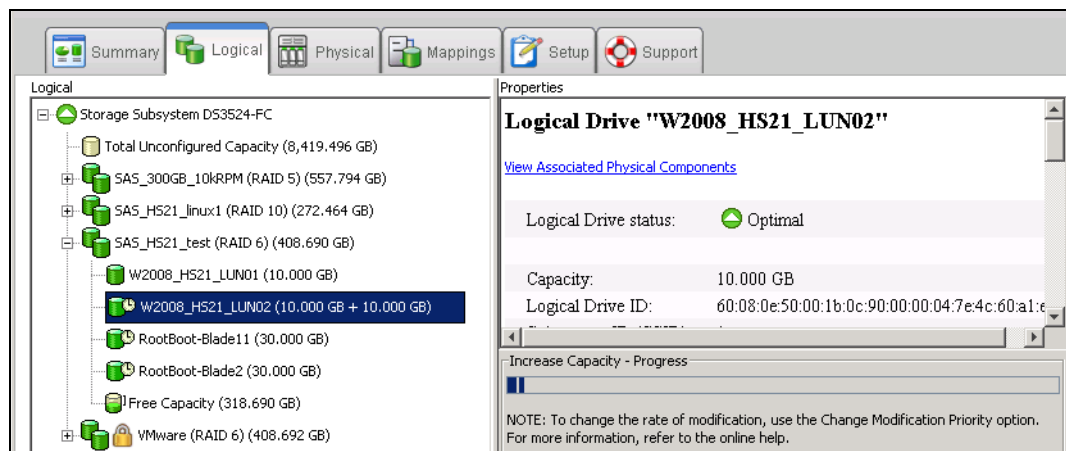

Figure 9-36 Increase Capacity - progress
4. After a couple of seconds, the operation starts, the data on all following logical drives in array are redistributed, and the affected logical drives are marked with a small clock icon. You can see progress of operation in the Properties pane (Figure 9-36).